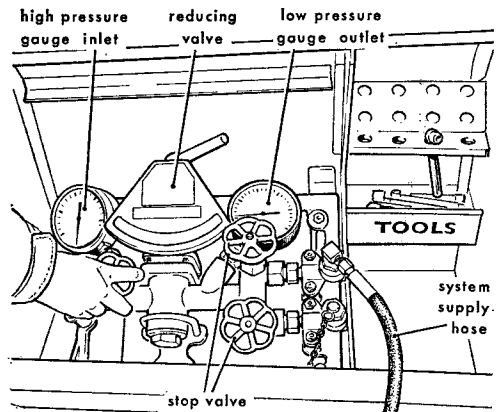

Fig 12 Charging regulator
23. The charging regulator. On no account attempt to use a high pressure gas trolley unless you understand how the charging regulator is used to control the outlet gas pressure. A simple example of a charging regulator is shown in Fig 12. By examining this drawing it can be seen that the pressure of the incoming gas (up to 6000 psi (414 bars)) is controlled by a valve and recorded on the 'high pressure gauge' and that the gas must pass through the reducing valve to reach the outlet side of the charging regulator. Turning the tee handle of the reducing valve anti-clockwise will reduce and eventually cut off the gas flow to the outlet altogether; turning the handle clockwise will increase the gas flow. Fitted between the reducing valve and the gas outlet is a low pressure gauge and a stop valve, in that order. The stop valve is used to shut off the gas outlet, and the low pressure gauge records the pressure fed to the aircraft system or component. The same type of charging regulator is used with oxygen, nitrogen and air charging trolleys. Before opening the outlet valve on the gas cylinder it is important to set the charging regulator controls: